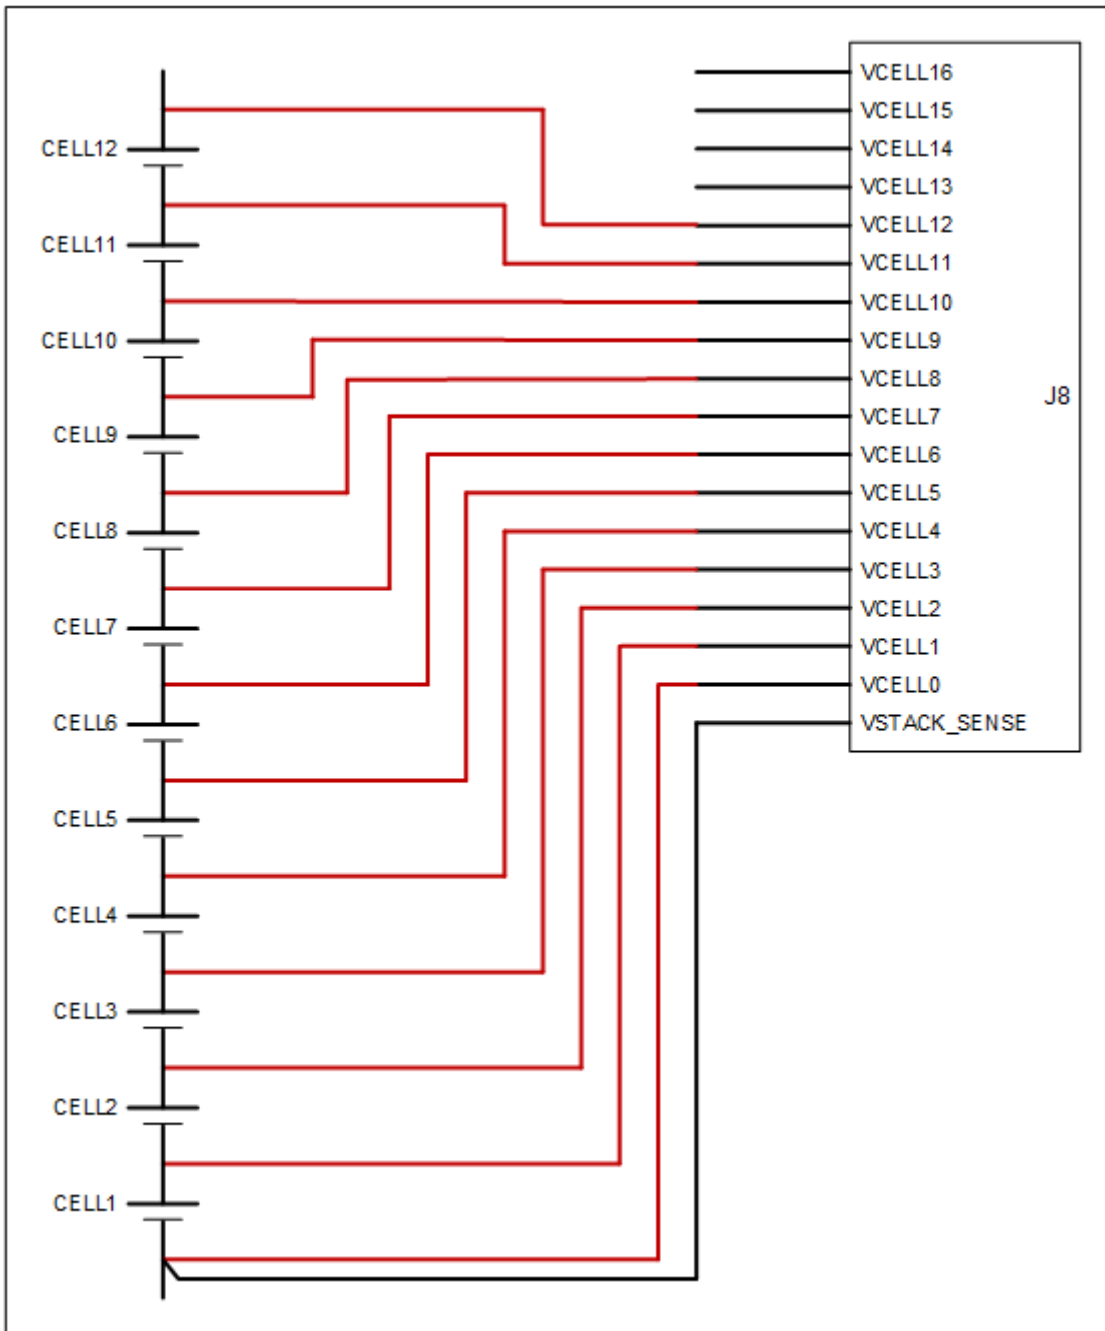
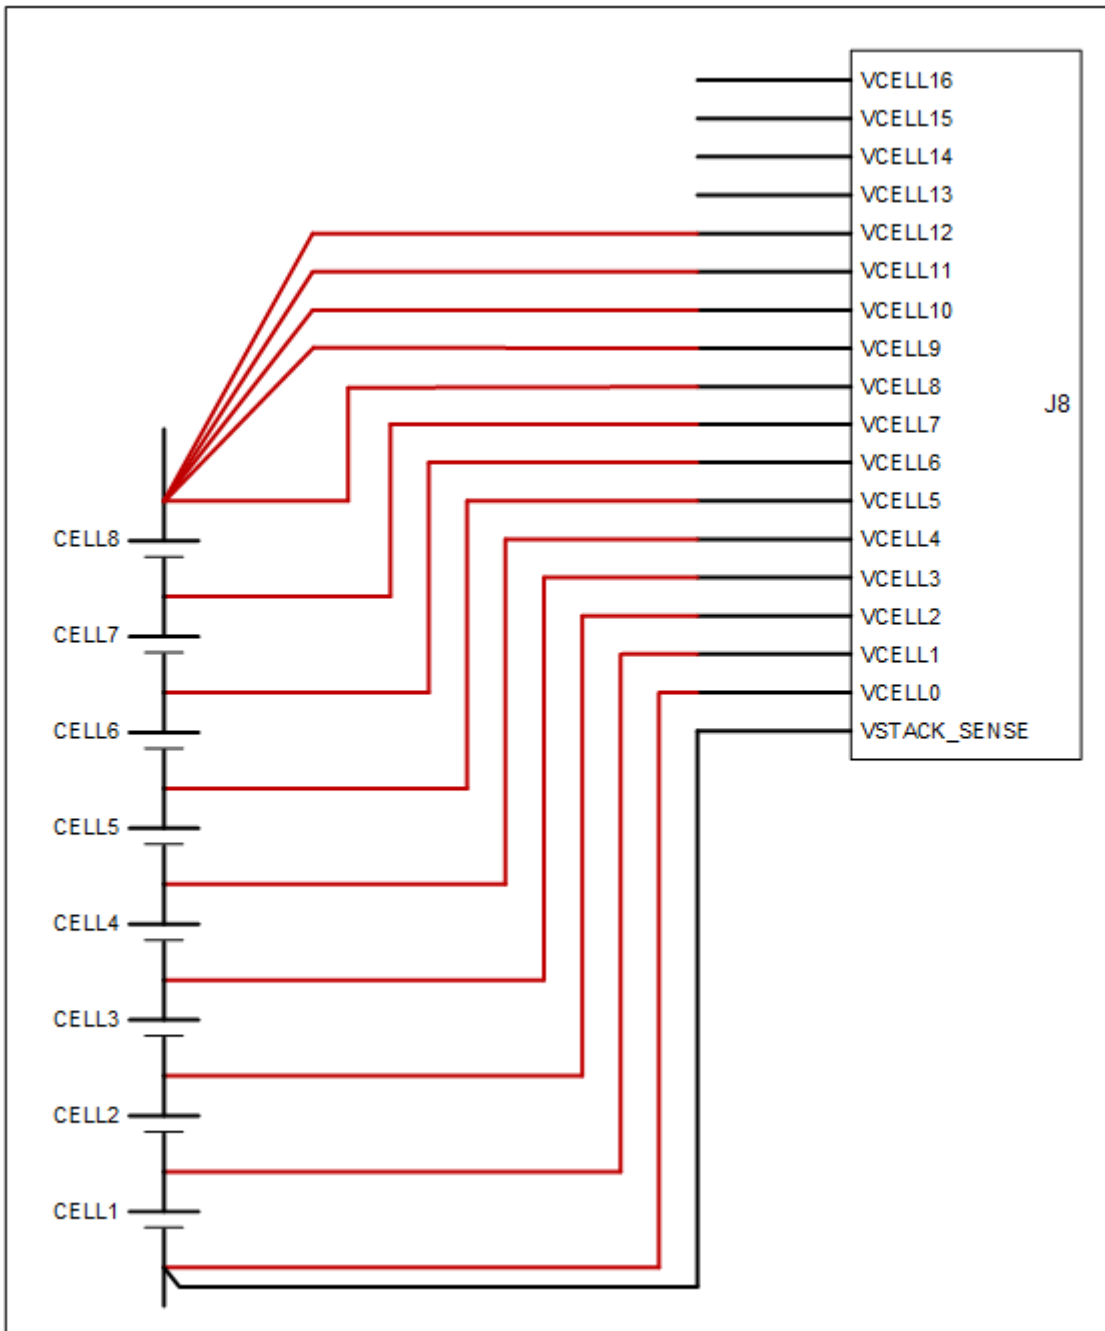

Figure 7. NUV300-BC-12: Connecting 12 cells to J8
Figure 8. NUV300-BC-12: Connecting 8 cells to J8
**NUV300-BC-12:** Connected cells are monitored internally by a single functional block. This functional block requires a minimum stack voltage of 11V to operate and measure its input voltages. The total voltage across the stack can be up to 60V. Unused cell tap wires should be connected to the last cell in the stack. See Figure 7 and Figure 8 for examples of how to connect cells to the NUV300-BC-12.
It is important to connect all cells in ascending voltage order, such that the negative terminal of the most negative (bottom) cell connects to **VCELL0** of **J8**, and the positive terminal of each cell connects in ascending voltage order to **VCELL1**, **VCELL2**, etc. If fewer than 12 cells are connected, then the top cell and all unused cell inputs between the top cell and **VCELL12** must be connected to **VCELL12**. Inputs **VCELL13** through **VCELL16** may be left disconnected, as shown in Figure 8.